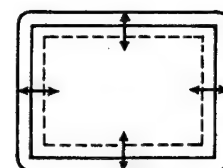

Fig. 32
7. Tilt the DY left and right, match the R and B for H line of up and down side and V line of left and right side. (Fig. 32)